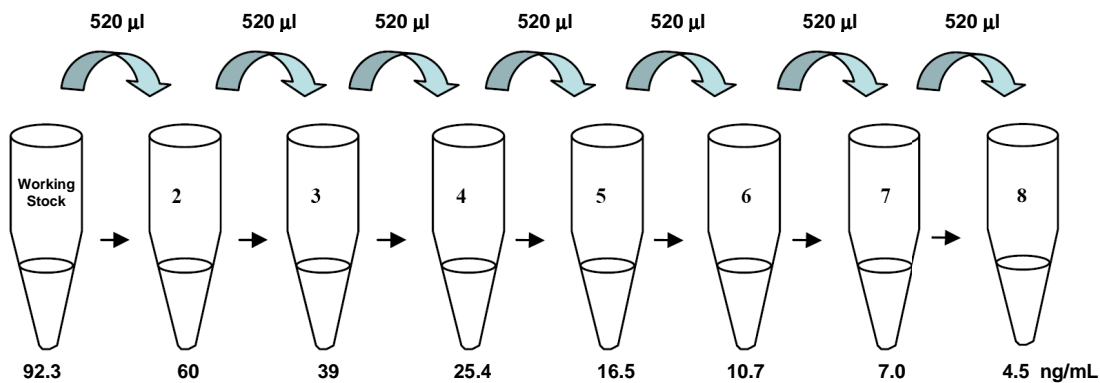

Figure 2: Schematic of serial dilutions and concentrations for preparation of standards.
4. Perform a serial dilution by adding 520  $\mu$ L of each preceding standard to tubes #3-8 (Refer to Figure 2). For example, to make standard #3, remove 520  $\mu$ L of standard #2 and add it to tube #3 and vortex. Do not add any protein standard to the "0" or blank tube.